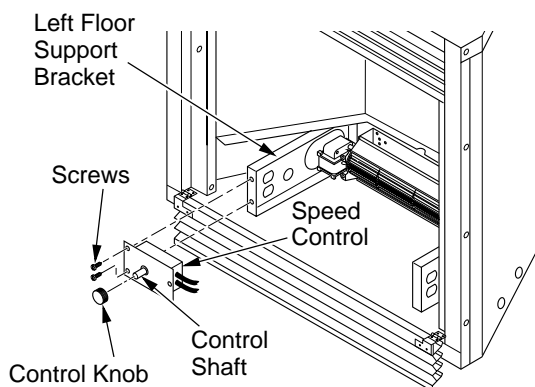

Figure 15 - Attaching Speed Control to Firebox (VTGF33NR/VTGF33PR Shown)
7. Mount the speed control on the front leg of the left floor support bracket using 2 screws provided (see Figure 15).